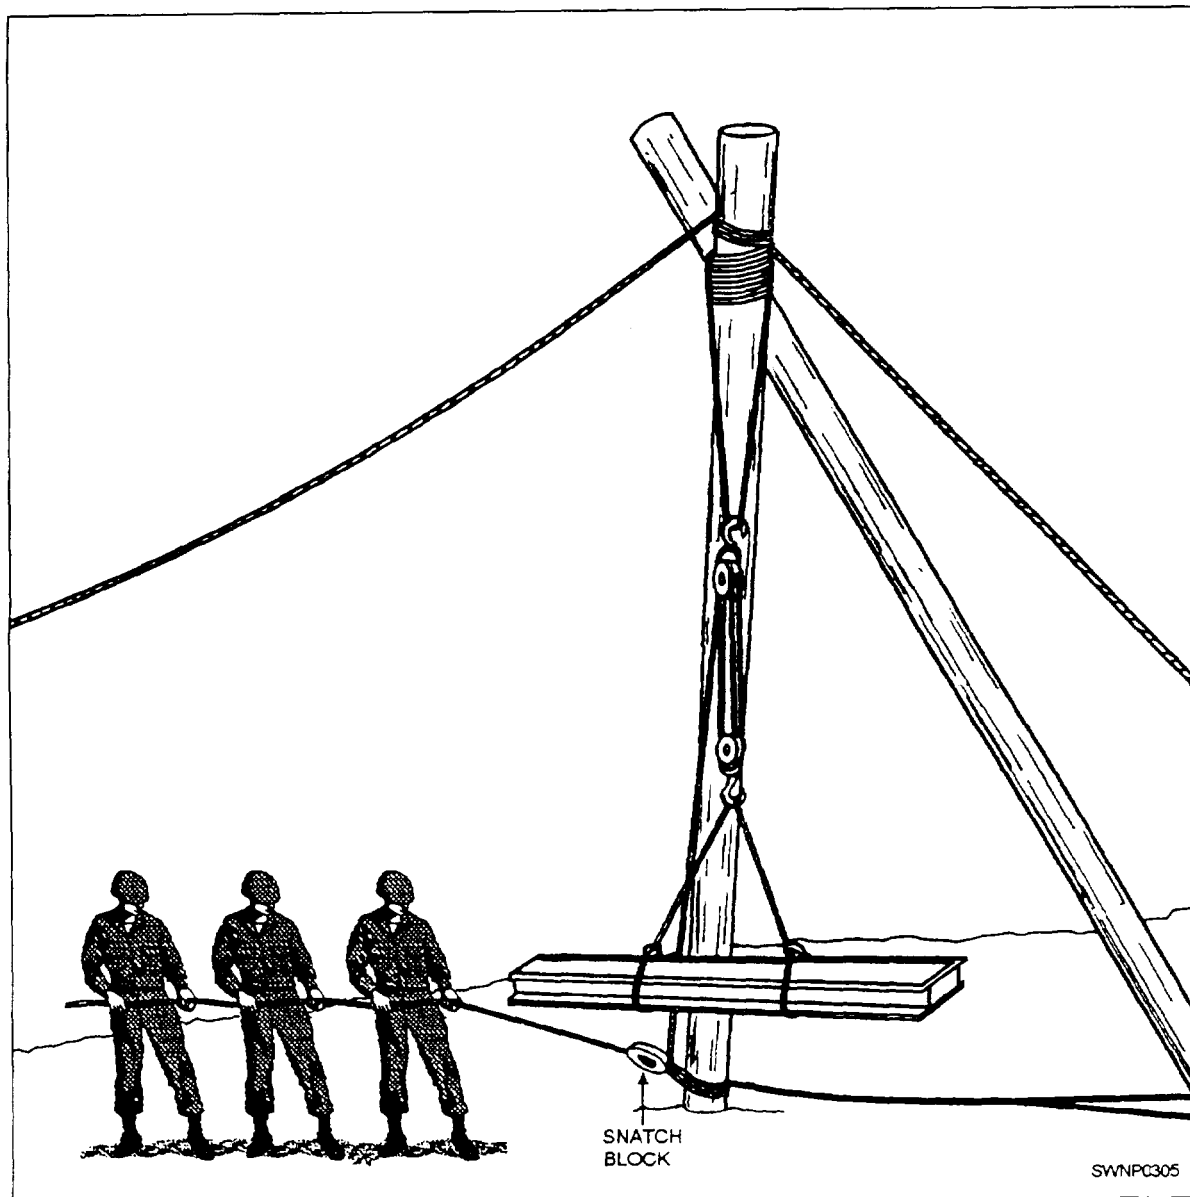

Figure 6-58.—Hoisting with shears.
3. *Operating.* The rear guy is a very important part of the shears rigging, as it is under a considerable strain when hoisting. The front guy has very little strain on it and is used mainly to aid in adjusting the drift and to steady the top of the shears when hoisting or placing the load. It maybe necessary to rig a tackle in the rear guy for handling heavy loads. In operation, the drift (inclination of the shears) desired is set by adjustment of the rear guy, but this should not be done while a load is on the shears. For handling light loads, the fall line of the tackle of the shears can be led straight out of the upper block. When heavy loads are handled, you should lash a snatch block (fig. 6-58) near the base of one of the shear legs to act as a leading block. The fall line should be run through the leading block to a hand- or power-operated winch for heavy loads.